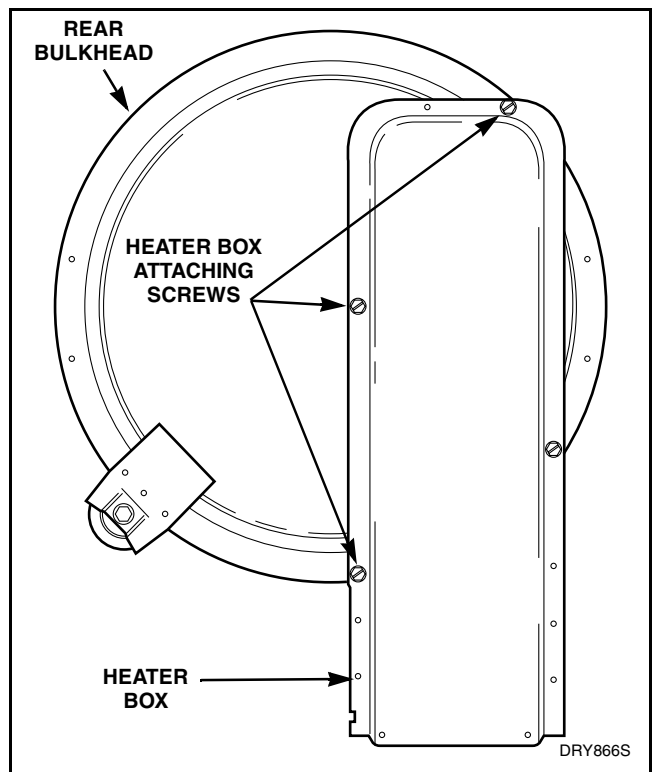

Figure 35
- a. Refer to *Figure 35* for removal.